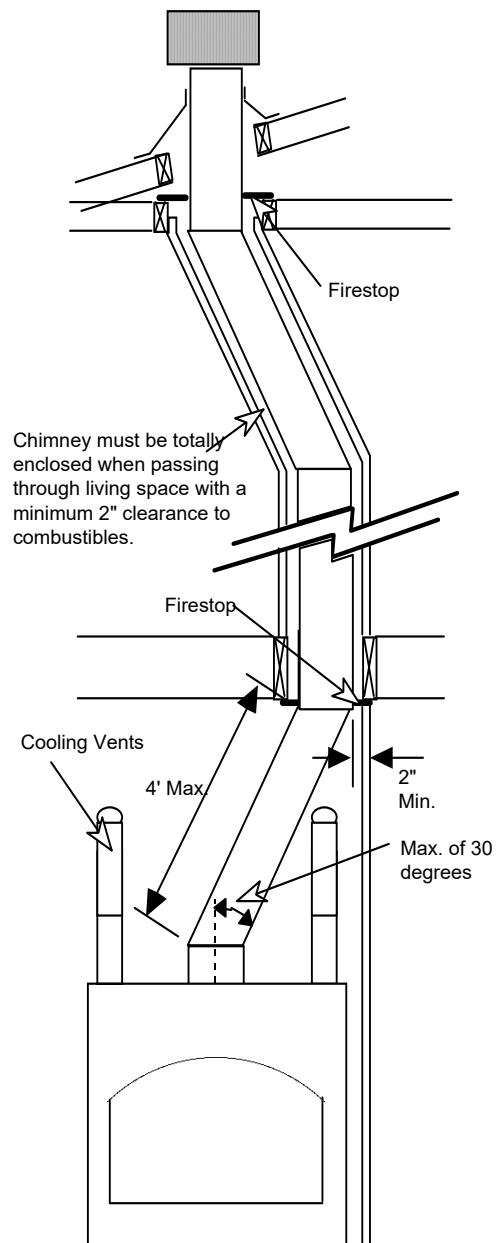

Figure 24
- Offsets (using a pair of 30° elbows) may be used to redirect the chimney. Typically this is done to avoid structures, align the pipe with framing, or to gain clearance to combustibles (see Figure 24).